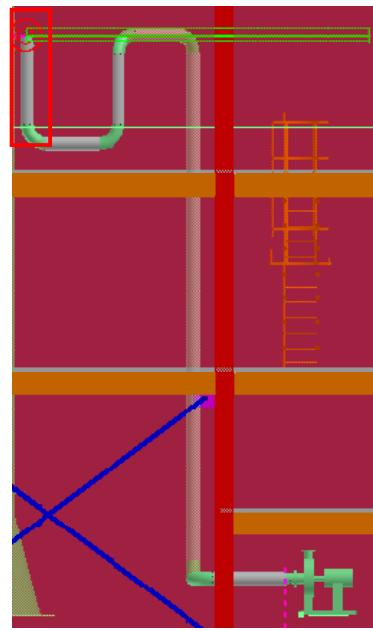
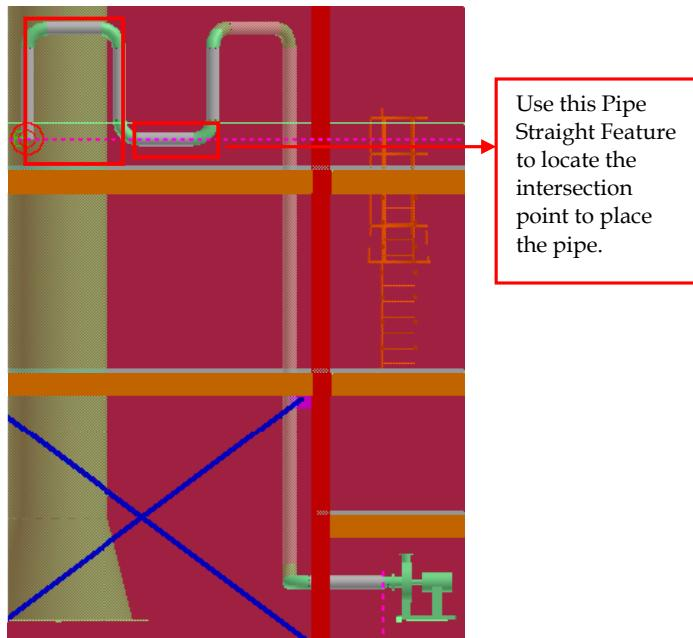

Figure 25: Placed Pipe
Figure 26: Placed Pipes
37. Move your cursor downwards and use the **Pipe Straight Feature** highlighted in Figure 25 to locate the intersection point. Click in the graphic view to place the pipe. The view of your model should resemble Figure 26.